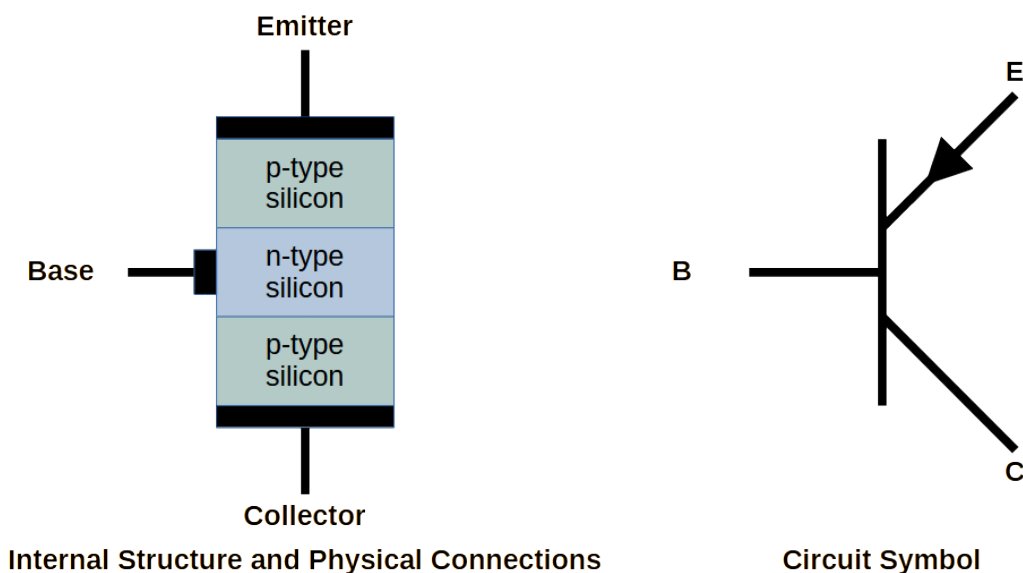

Figure 30: PNP transistor internal structure, physical connections and circuit symbol
- b. The internal structure, physical connections and circuit symbol of an PNP transistor is shown in Figure 30